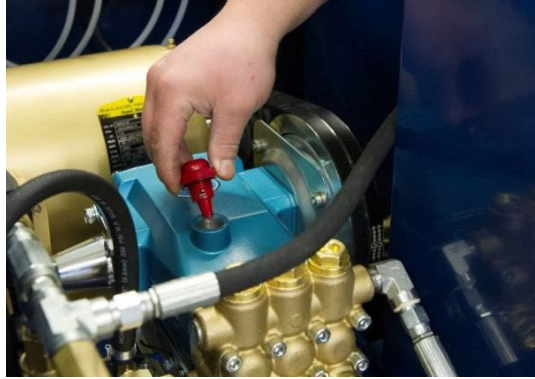

Figure 10: Pump oil check/fill plug
1. Drain the oil by 1) removing the plug located at the rear of the pump crankcase or 2) removing the fill plug (Figure 10) and suctioning the oil out with a suction gun that has a flexible tub.